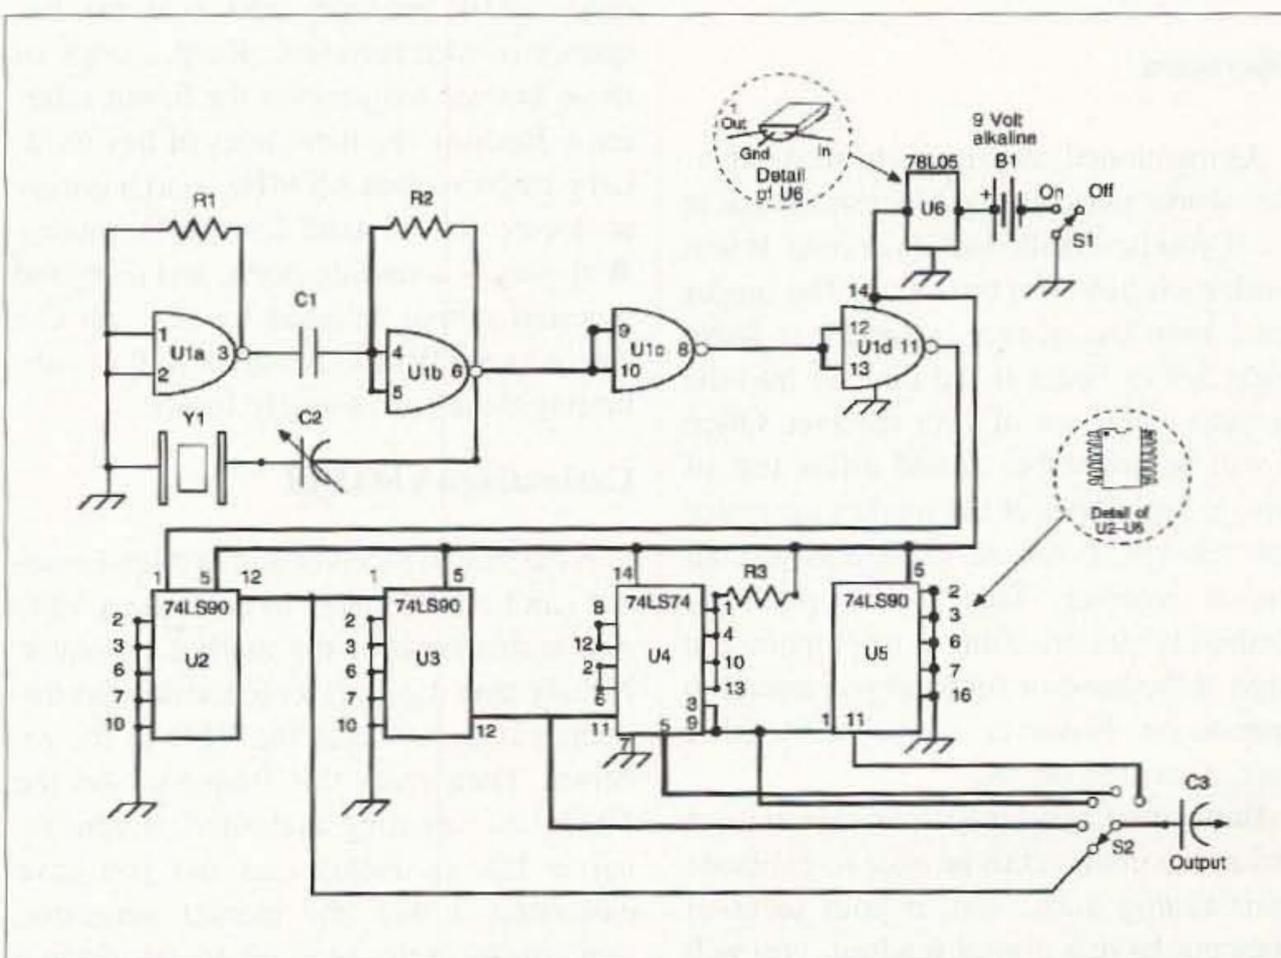

Fig. 1. Schematic for the simple secondary frequency standard.
Fig. 1 is the schematic diagram of this instrument. Refer to this illustration for the following discussion. Battery B1 (9 V) provides power through S1 to a 5-volt regulator, U6, a 78L05, which provides regulated +5 VDC to the five ICs—chips—which provide all the marker frequencies from 1 MHz down to 10 kHz.
**Caution:** Pinouts of all chips and the 78L05 regulator are illustrated in Fig. 1. Pinouts of all chips are shown from the top of the chip. Pinout of the regulator is shown from the bottom. Make certain you are connecting to the specified pins!
Because this marker generator is a digital circuit, it will either function perfectly or not at all. If it doesn't work you have made a wiring error, or you have plugged a chip into the wrong socket. Go back and check *everything* against the schematic diagram in Fig. 1.
A slightly more complicated way of locating known frequencies is to build a small crystal oscillator using a color-burst crystal whose nominal frequency as marked is 3.579545 MHz. Duplicate the U1 portion of the schematic diagram, Fig. 1, remembering to supply +5 VDC to the 74LS00 chip. Do not include C2, but connect the crystal directly between pins 1-2 and 6. This crystal will produce frequencies either within or very close to every HF ham band between 80 and 10 meters, including WARC bands. However, you will have to check the crystal fundamental frequency with a frequency counter because it *will not* be exactly 3.579545 MHz. When the fundamental frequency is accurately known, use a calculator to multiply the fundamental frequency and note the frequency of each harmonic. Keep a copy of these known frequencies for future reference. Because the harmonics of this oscillator are more than 3.5 MHz apart it is easy to locate the desired known frequency. With this as a starting point, and using the required output selected by S2, you can easily locate WARC bands as well as calibrating these and other HF bands.